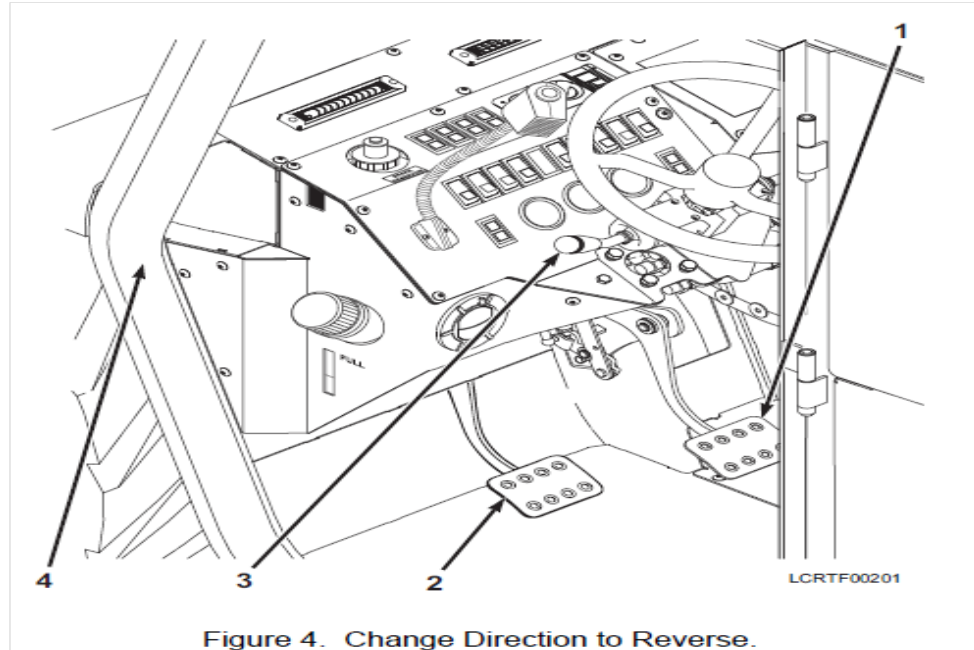

Figure 3-63
- a. Release accelerator pedal (see Figure 3-63, Item 1) and slowly apply brake pedal (see Figure 3-63, Item 2) until vehicle comes to a complete stop (see Figure 3-63, Item 4).
- b. Move gear selector lever (see Figure 3-63, Item 3) to reverse (down) position.
- c. Release brake pedal (see Figure 3-63, Item 2) and slowly press accelerator pedal (see Figure 3-63, Item 1) to obtain desired speed.